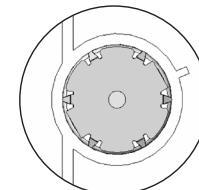

Figure 8
8. Install Cover Insert (P/N 705002), Figure 8. Press the insert into the cover using even pressure. The insert is designed to prevent spline key movement. Once installed do not attempt to remove the insert. Remove the back cover to service the lock; this will not void the factory warranty.